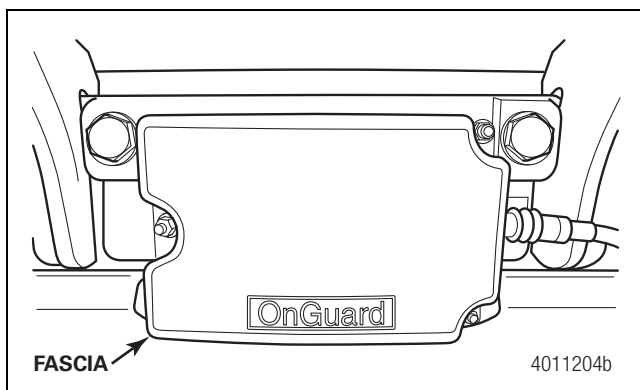

Figure 7
7. Place the fascia in position over the radar sensor. Install the M6 flange nuts included in the kit and dry tighten to 61-75 in-lb (6.9-8.4 N•m). Figure 7.